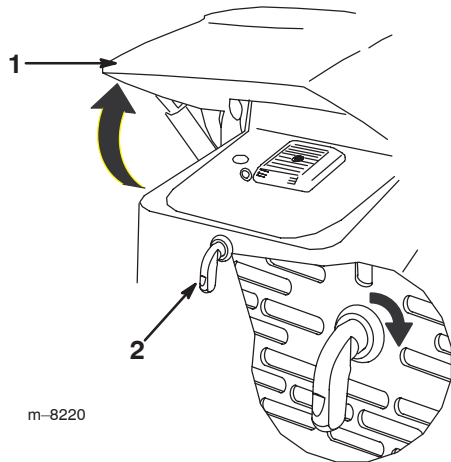

Figure 15
1. Turn the hood latch clockwise (Fig. 15).
2. Swing the hood up (Fig. 15).